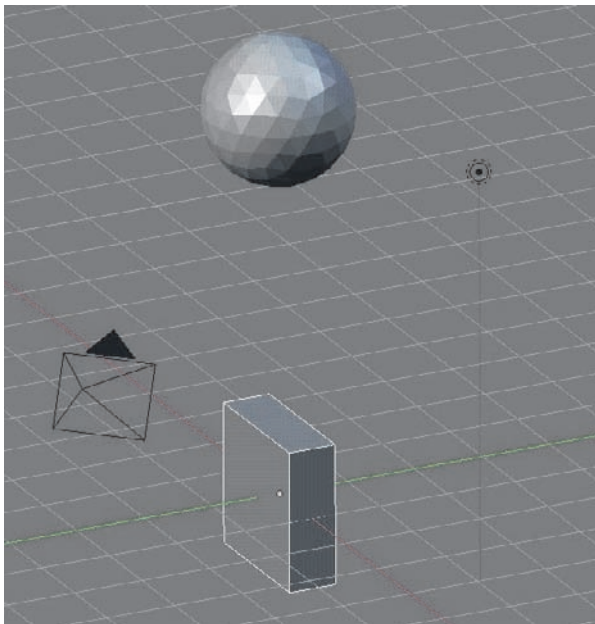

Figure 3.70 Setting up the objects for demolition
2. Set up two objects as shown in Figure 3.70. Do this by scaling the default cube in Object mode along the Y axis, and adding an Icosphere object in the ordinary way (use a subdivision value of 3). Translate the sphere upward along the Z axis. Before doing anything further, be sure to clear any rotation on the sphere by pressing Alt+R, and to apply the scale and rotation to the cube by pressing Ctrl+A. It is important to apply or clear all rotation and scaling prior to setting up the demolition simulation.